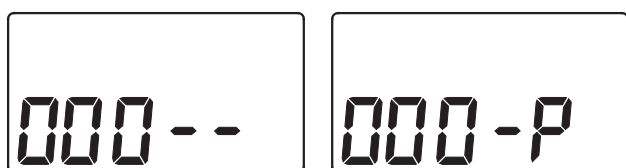
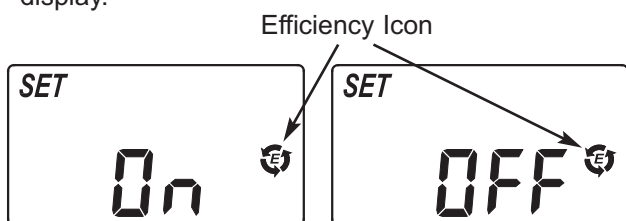

FIG. 37
FIG. 38
1. Press and hold the SELECT button until one of the screens in Figure 37 is displayed. Once in this display, press the SELECT button once and one of the two displays in Figure 38 is shown.